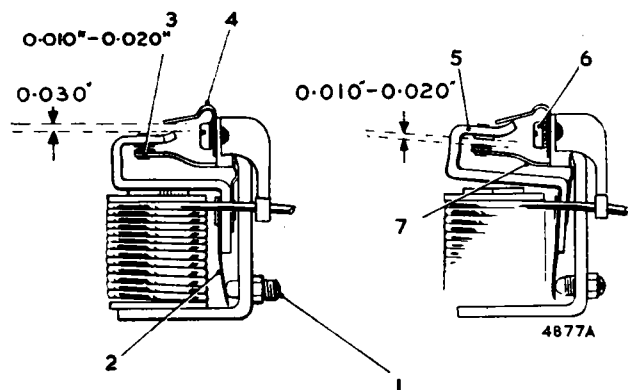

Fig. N.8
If the cut-out operates outside these limits it will be necessary to adjust it to within the limits. To do this slacken the locknut securing the cut-out adjusting screw (1) (Fig. N.8) and turn the screw in a clockwise direction to raise the voltage setting or in an anti-clockwise direction to reduce the setting. Turn the screw only a fraction of a turn at a time and then tighten the locknut. Test after each adjustment by increasing the engine speed and noting the voltmeter readings at the instant of contact closure. Electrical settings of the cut-out, like the regulator, must be made as quickly as possible because of the temperature rise effects.
Similarly, the fixed contact blade must be bent so that when the armature is pressed **squarely** down against the core face there is a 'follow through' of blade deflection of .010 to .020 in. (.254 to .508 mm.). See (3) (Fig. N.8).